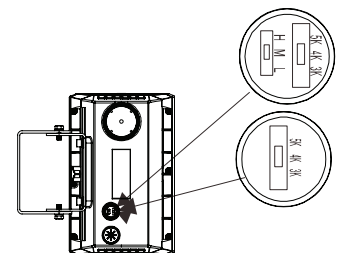

FIGURE 12*
2. After adjusting the required control function, tighten the metal plug clockwise (FIG 12)